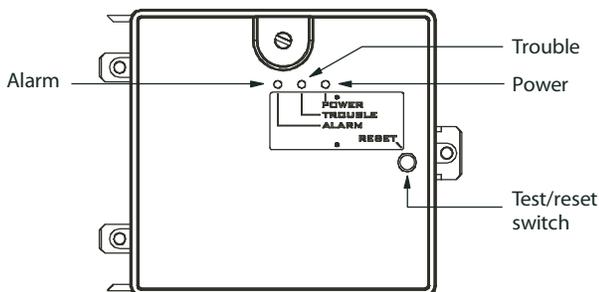

Fig. 28 - Controller Assembly
- The contacts on the controller's supervisory relay switch positions. (See Fig. 28.)